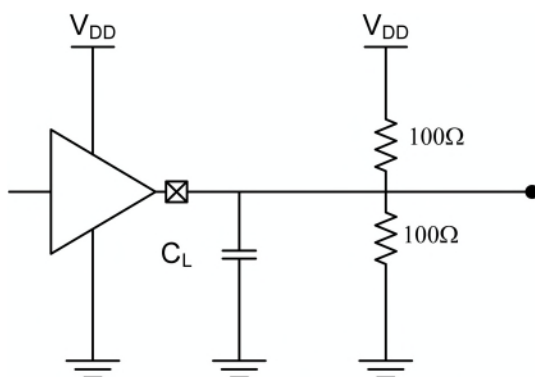

Figure 15. Equivalent Load Circuit for Timing Characteristics Tests
1. All outputs are measured using the load conditions shown in Figure 15.
2. All outputs are measured using the load conditions shown in Figure 15.
4. A unit interval (UI) is defined as the nominal, or ideal, bit width.